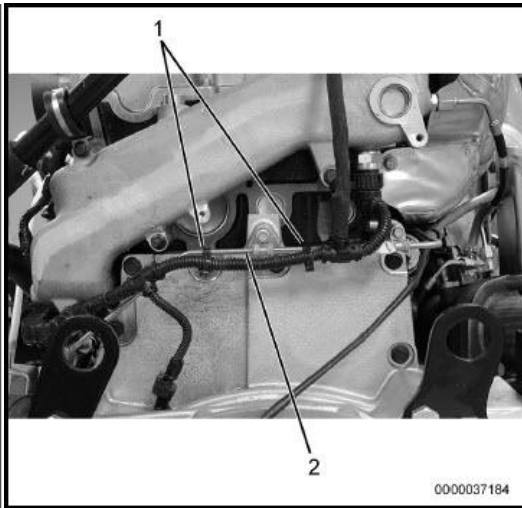

Figure 2: C Clip Retainer locations on AFI Hard Line.
4. Cut and remove two C clip retainers (*Figure 2, Item 1*) securing engine harness to After-treatment Fuel Injector (AFI) hard line (*Figure 2, Item 2*).